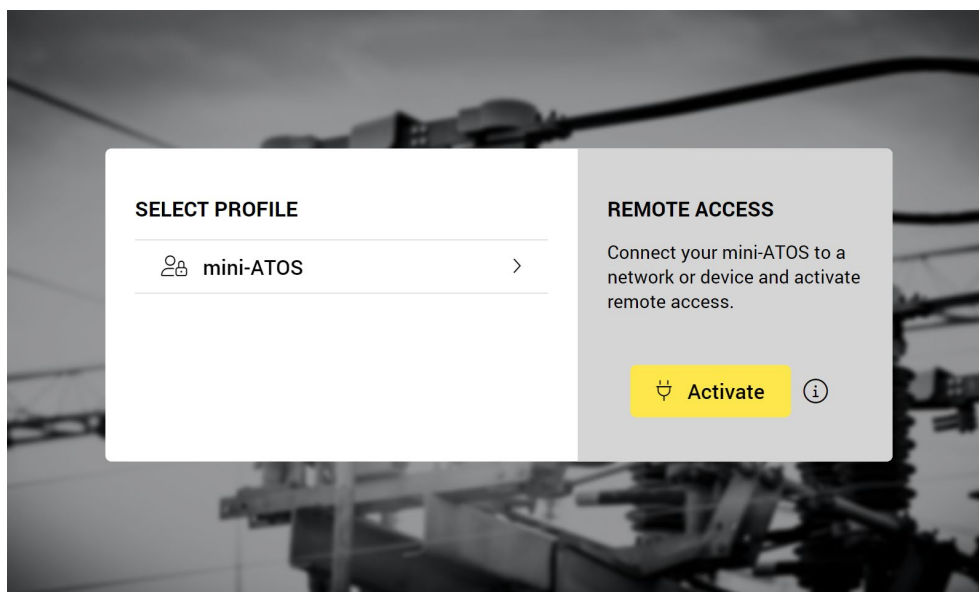

Figure 118: Select the Profile page on the mini-ATOS display
- 3- From the home page or the main menu, tap the logout icon  to see the select profile page like Figure 118. You can also tap on the information icon  to see the remote access instructions